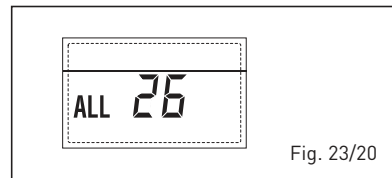

Fig. 23/20
- ERROR SOLAR APPLICATION COMPATIBILITY "ALL 27" (fig. 23/21)